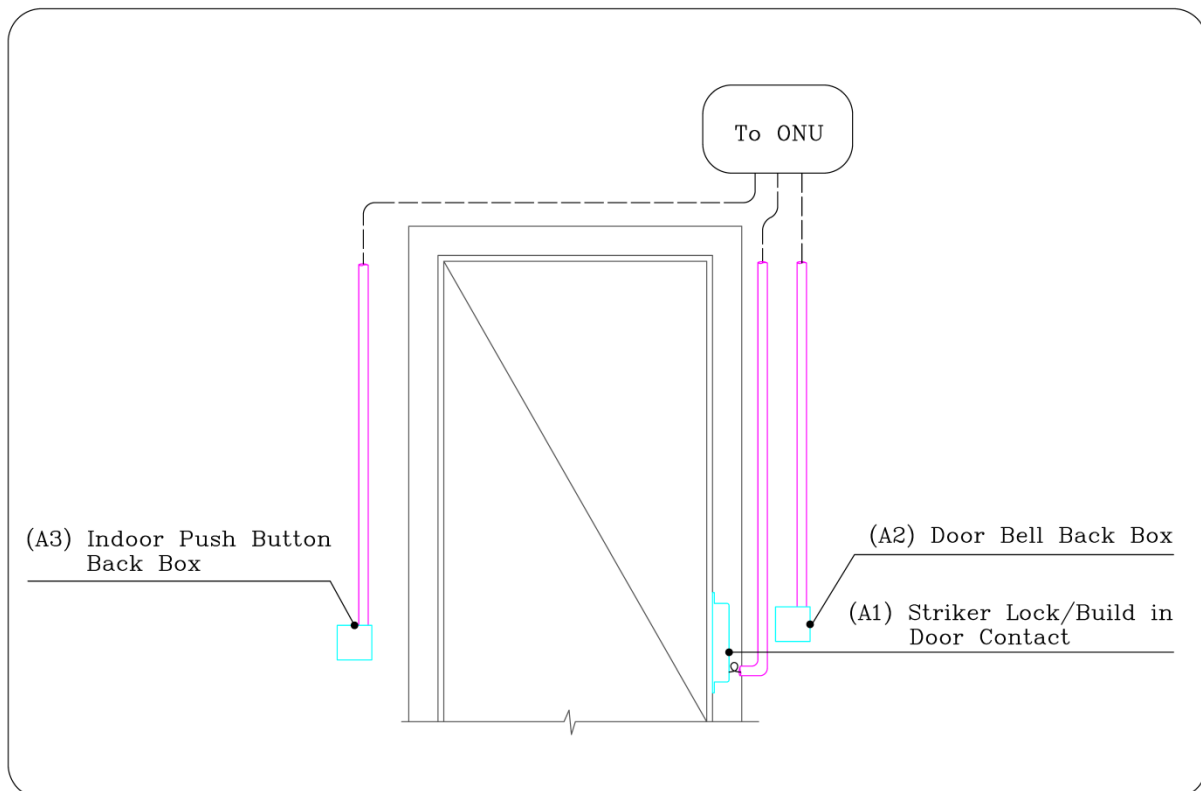

Figure 1.1.12: Connections of the striker lock, doorbell, and indoor push button
- Four devices, which are the card reader, door lock, door contact and, exit button should be provided to each door that needs to be controlled as shown in Figure 1.1.12.